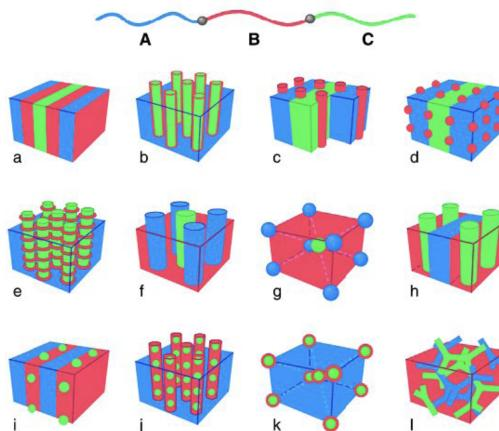

Figure 2.11: Self-assembly of an ABC triblock copolymer.
- If we have something like (a) of Figure 2.11, then we probably have  $N_A = N_B = N_C$  (because everything is nice and equally ordered) and  $\chi_{AC} < \chi_{AB} \approx \chi_{BC}$  (because we have AB and BC interfaces, but not AC interfaces).
- If we can do everything in Figure 2.11 with 3 things, imagine how much we can do with the 20 amino acids!
- **Min-max principle:** Phases are most stable when we (1) minimize interfacial energy and (2) maximize the conformational entropy of the chains.